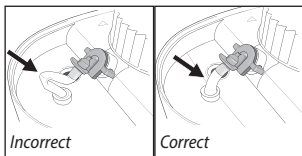

Fig. 4
4. Replace the steam nozzle. Make sure the suction tubing is straight before attempting to use, Fig. 4.